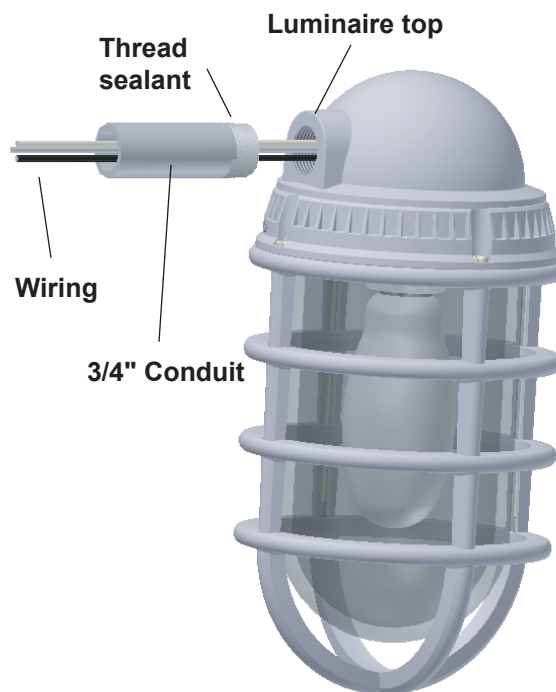

FIGURE 3
5. Apply thread sealant onto external conduit threads to ensure water-tight connection. Tighten into luminaire top opening. See Figures 3 and 4 (depending on wall or pendant model).